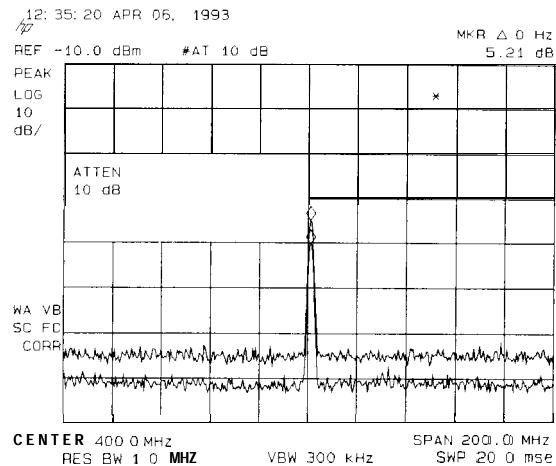

Figure 3-22. RF Attenuation of 10 dB
5. Next, increase the RF attenuation by 10 dB: press **AMPLITUDE**, **ATTEN AUTO MAN**, and the step-up key (**↑**) once. See Figure 3-22.
When the source signal amplitude is changed between trace A and trace B and there is a resulting change in the distortion product, this is shown by a change in the marker amplitude (marker-delta value). An example of the marker-delta value produced by a change in the distortion product is shown in Figure 3-22. A change in the distortion product is indicative of high-level input signals causing circuit overload conditions and producing distortion. This distortion is a function of the internal hardware of the analyzer. The input signals must be attenuated to eliminate the interference caused by the internal distortion.